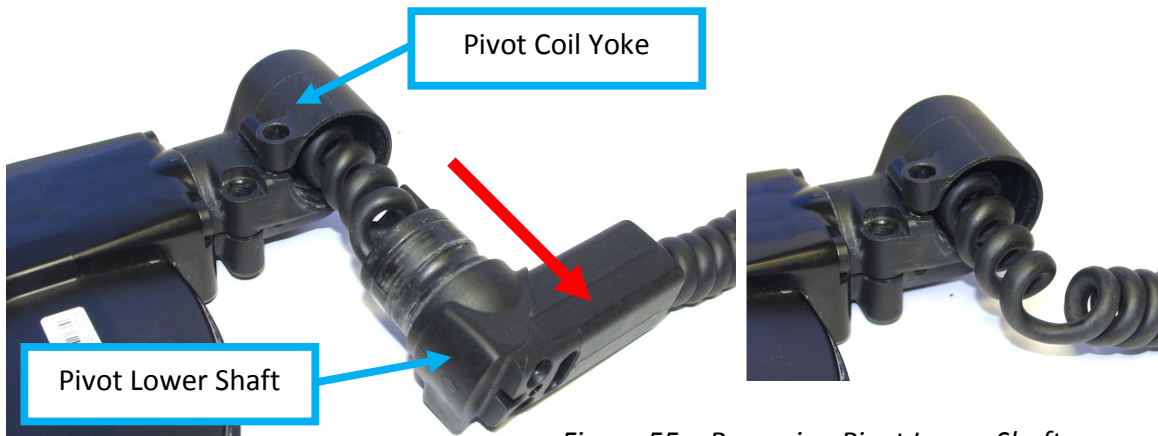

Figure 55: Removing Pivot Lower Shaft
- a. The coil pivot is a line replaceable unit and Figure 55 illustrates the major parts. Each part of the coil pivot can be ordered individually or as a 3004-0130 Coil Pivot Kit which includes all parts shown in Table 3.